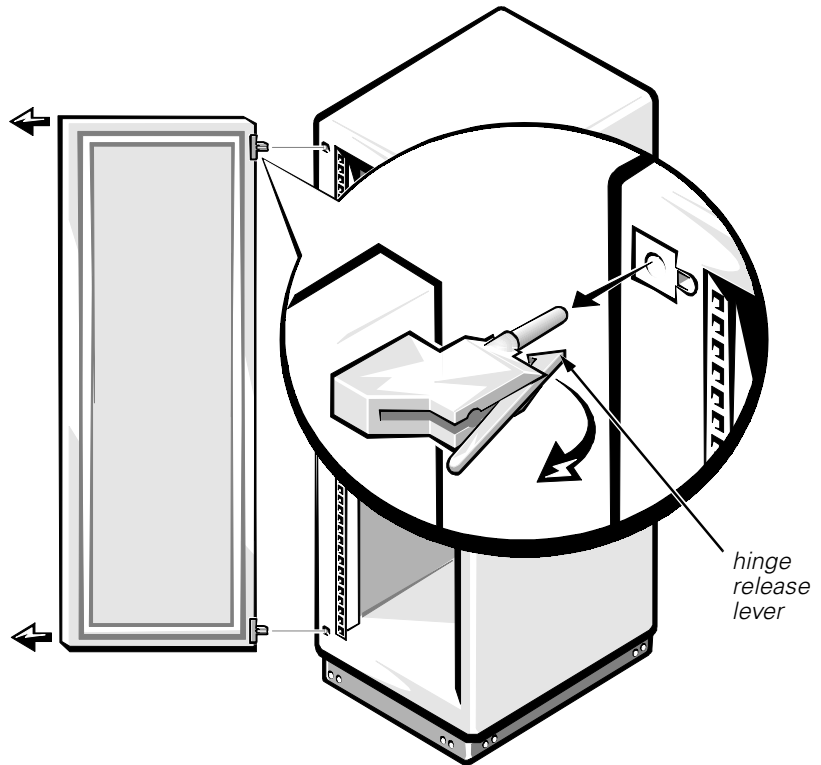

Figure 3. Removing the Rack Doors
2. Remove the front door as shown in Figure 3:
- a. Lift the front door into position, and align the hinges with the holes in the rack as shown in Figure 3.